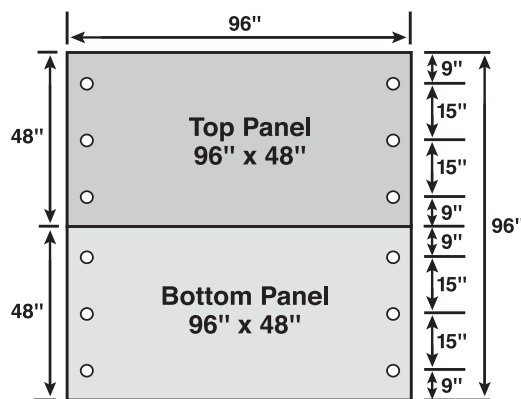

Fig. 2 Secure plywood panel with PlyFASTner Plus
6. Hang the plywood panel over the lags. Position PlyFASTner Plus over the lag heads and slide each of the four PlyFASTner Plus into place (Fig. 2 & 3). Adjust the depth of the lag with the nut driver, if needed so that the system is tight and there is approximately 1/8" space between the lag head and PlyFASTner Plus. (Fig. 4)